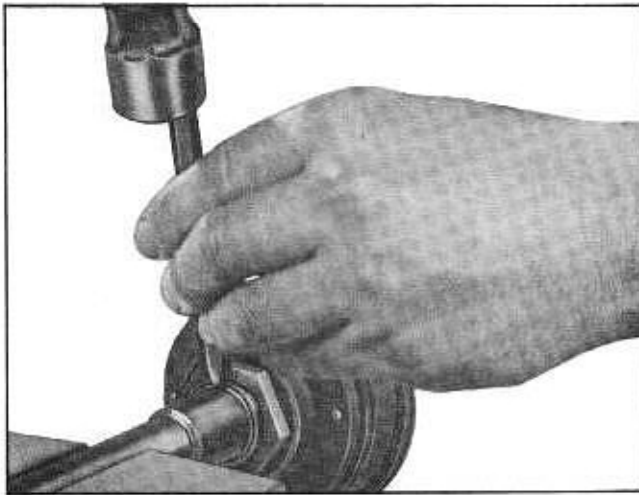

Fig. 9-39 Staking Nut After Preload Adjustment
- f. After proper preload has been obtained, stake nut being careful not to move when staking (Fig. 9-39).